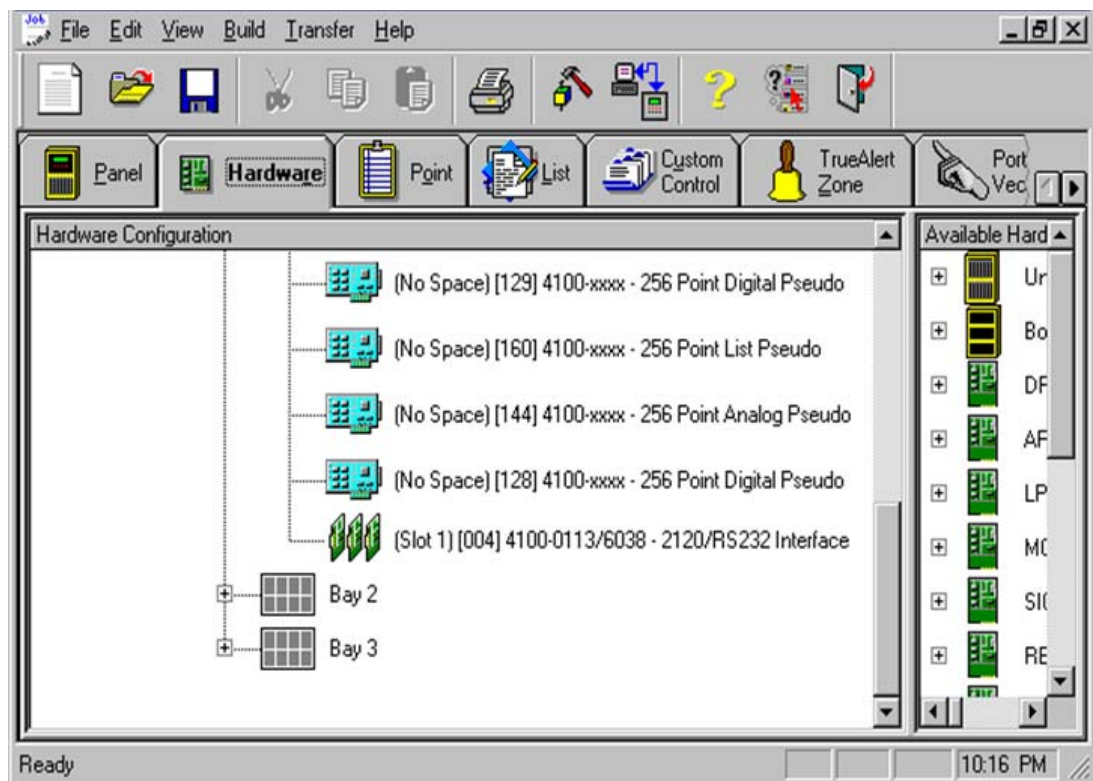

Figure 17. Hardware Configuration (4100U software shown)
4. Using the Hardware tab, add a 2120/RS232 Interface Card. The SafeLINC FPII is added like a 2120/RS232 Interface Card; however, the SafeLINC FPII only supports just a subset of the features supported by a 2120/RS232 Interface Card. Figure 17 shows a card already added near the bottom of the screen.